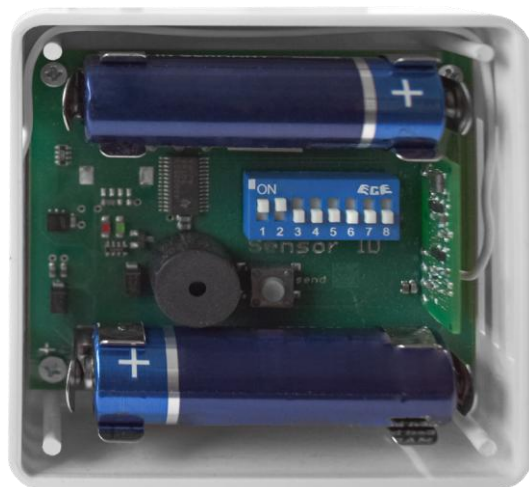

Fig. 10.2: Open the cover
2. Insert the 1.5 V AA batteries as shown (Fig. 10.2). The positive and negative terminals are marked on both the circuit board and the battery. The batteries are inserted correctly when these markings align.